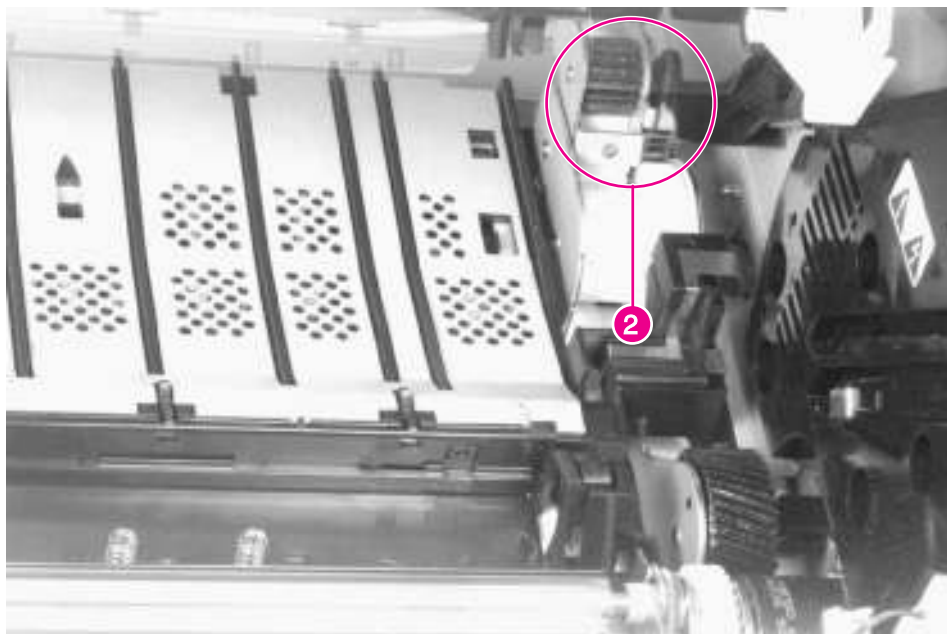

Figure 6-37 Main Gear Assembly (2 of 3)
- 1 Observe the gear assembly position from inside the toner cartridge cavity (figure 6-37, callout 2).